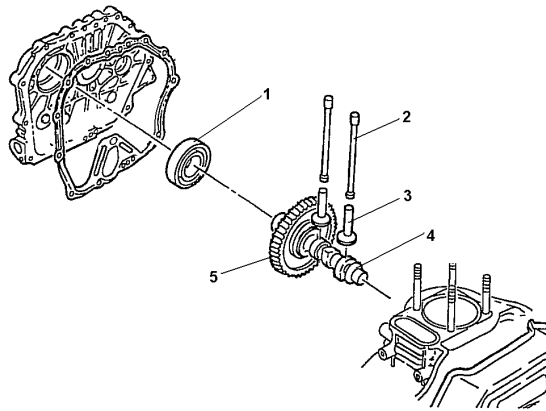

Figure 3. Camshaft.
1. Pull out push rods from cylinder head. Place on clean surface. See Figure 3.
1. Ensure that the push rods (2) are removed.
2. Rotate the camshaft (4) and note the alignment dots on the camshaft gear teeth (5) for assembly.
3. Push up the tappets (3) and pull out the camshaft (4) from the engine block. See Figure 3.
4. Remove the tappets (3).